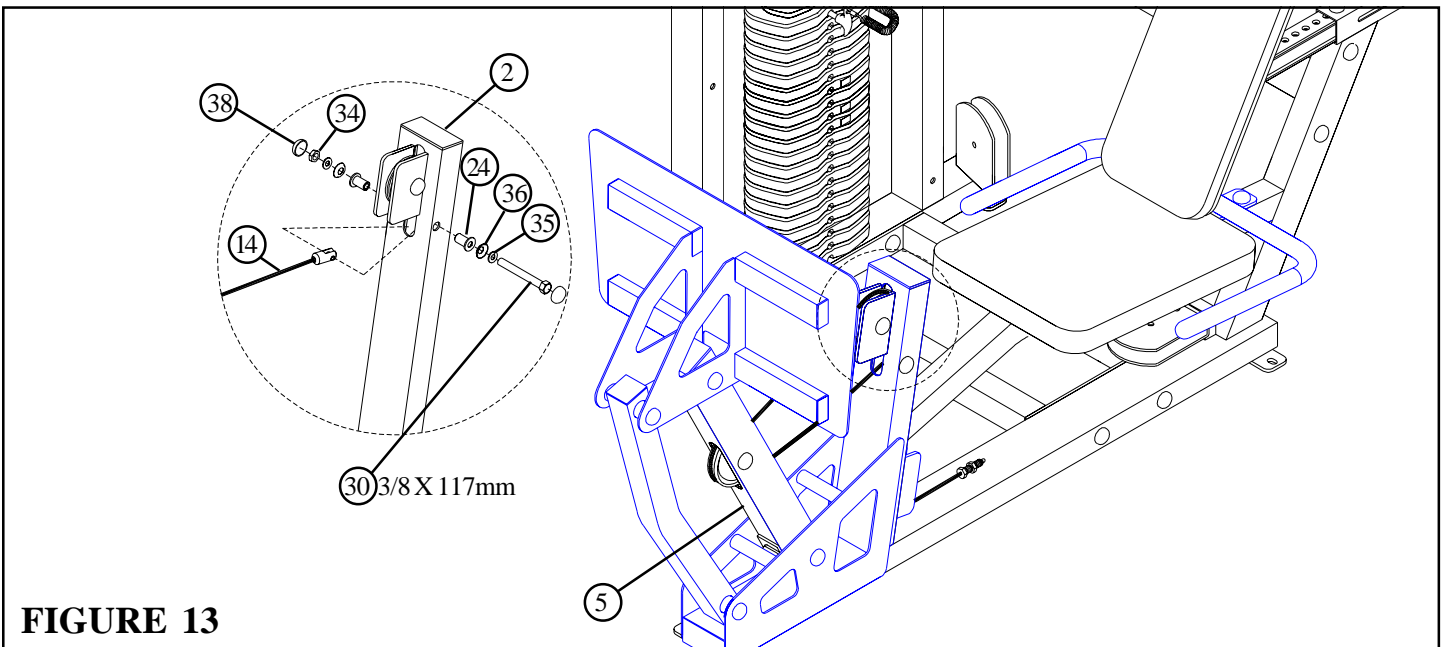

FIGURE 13
- **SECURELY** assemble the swivel end of the LEG PRESS CABLE (14) to the LEG PRESS FRAME (2) as shown, using two RH CAPS (38), one 3/8 X 117mm BOLT (30), two 3/8 X 1-1/2" FLANGE SPACERS (24), two 3/8" SAE WASHERS (35), two 3/8" RH WASHERS (36) and one 3/8" LOW HEIGHT LOCK NUT (34) as shown in FIGURE 13.